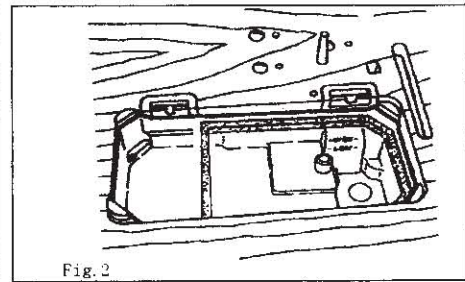

Fig. 2
5、Oiling (Figs.2 and 3)
1. Oiling shall be made in oil reservoir and the oil surface also be made to the level of the mark "High" before the machine is started (Fig.2)